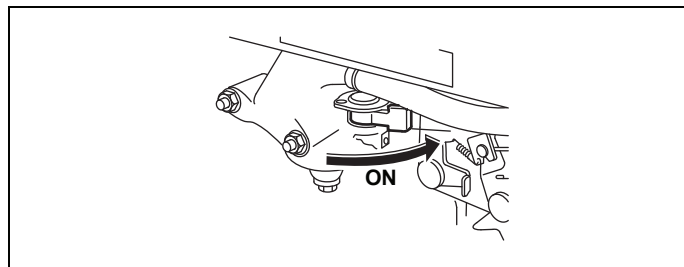

Fig. 4-20
2. Set the fuel cock to the "ON" (open) position. Fig. 4-20